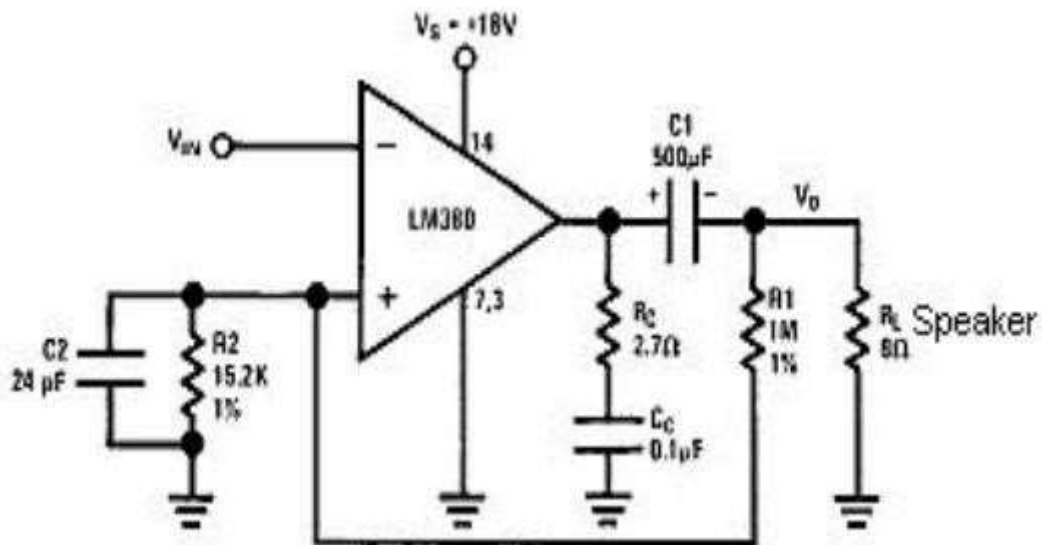

Figure 5.11.5. Circuit connections of LM380 as a High gain Amplifier
- Figure 5.11.5 shown above is the circuit connections of LM380 as a High gain Amplifier. The gain of LM380 is internally fixed at 50. But it can be increased by using the external components.